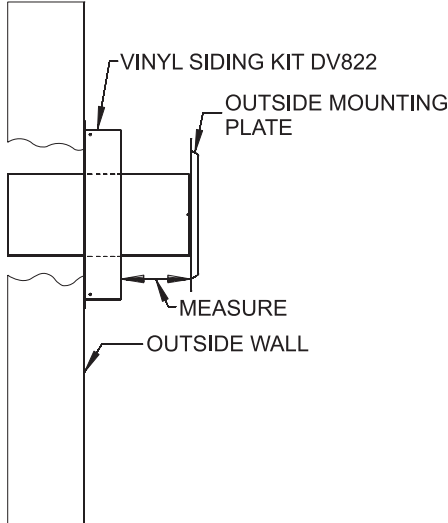

Figure 56
8. Attach the 4" (102mm) diameter flue outlet tube onto the rigid venting system or directly to fireplace. Ensure the 4" (102mm) diameter flue outlet tube is placed as far as possible onto the rigid venting system. Mark the 4" (102mm) diameter flue outlet tube 2 1/2" (64mm) beyond the vinyl siding kit or wall. See **Figure 56**. Remove the 4" (102mm) diameter flue outlet tube from rigid venting system. When installing directly to fireplace, tape gasket needs to be used.